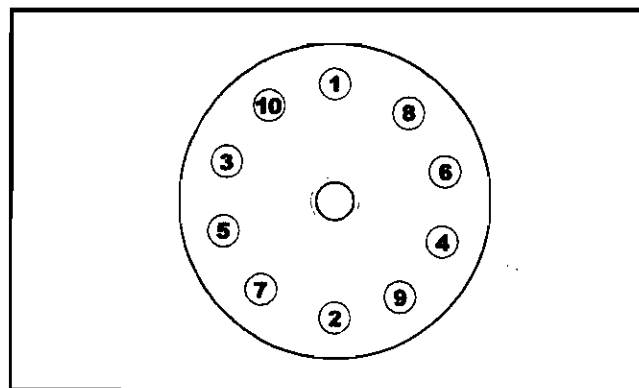

FIGURE 6
4. Torque the wheel nuts to between 400 and 500 foot-lbs using the sequence shown (Figure 6.)
2. Torque the wheel nuts to a value of between 400 and 500 foot pounds, using the sequence shown in Figure 6.